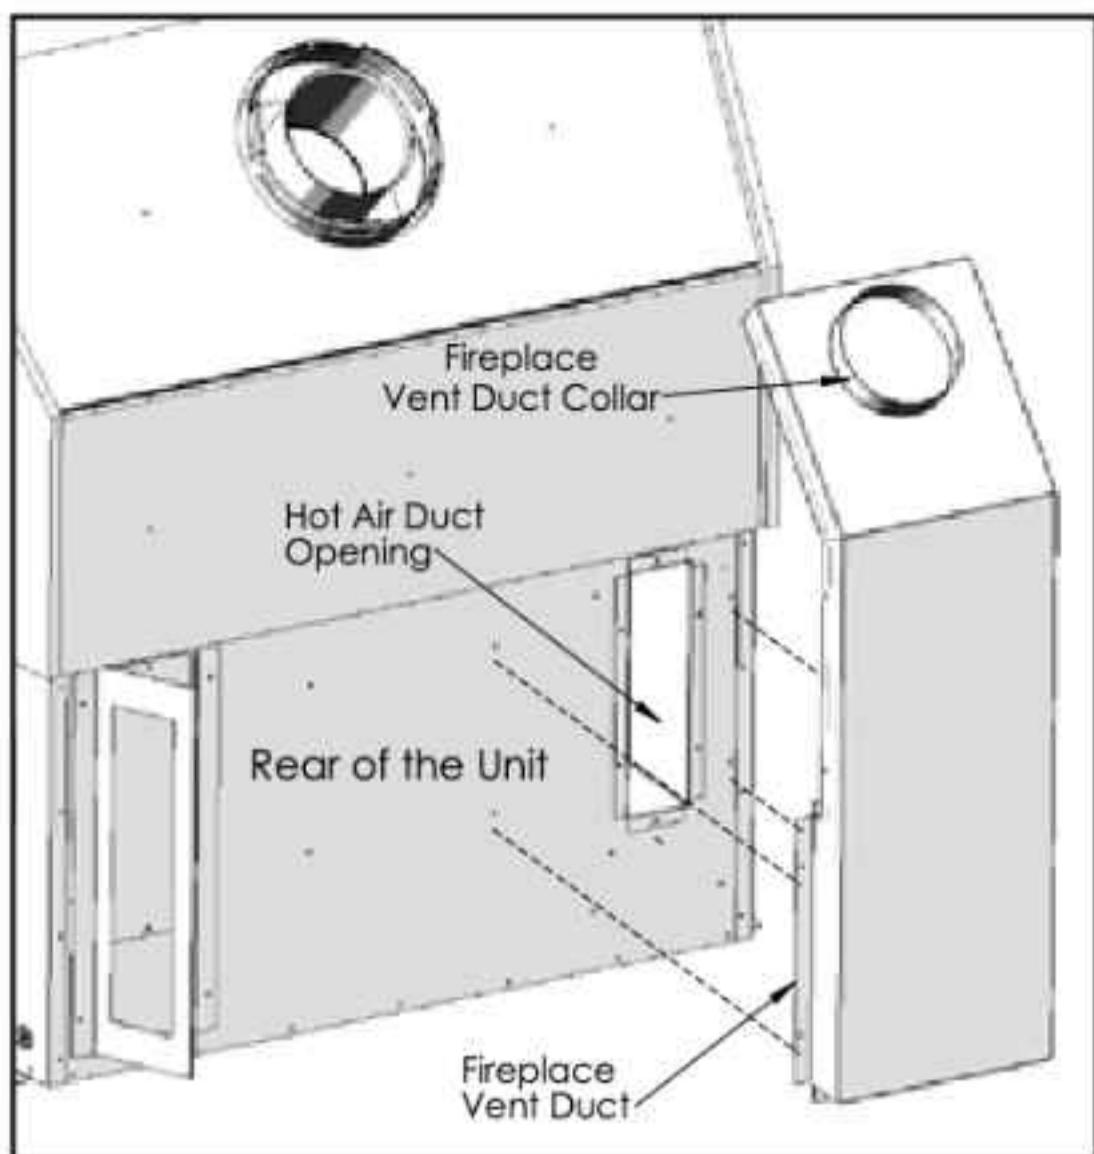

Figure 4: Install the vent duct kit.
3. Cover the hot air duct opening with the Fireplace Vent Duct (refer to Figure 4). Push the vent duct kit against the back of the fireplace and secure it in place with five (5) $\frac{1}{4}$ " HWH self drilling screws.